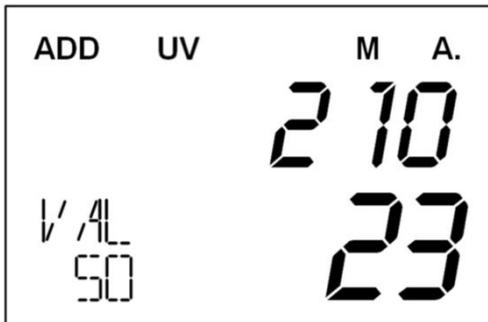

Figure 68
4) When the count is complete, the following screen will appear on the display: the number and amount of banknotes counted three times will be added up, as shown in Figure 68 below:
5) Press the **"PRINT"** button on the right side to print out the counting details through the printer, as shown in Figure 69 below. At the same time, when the machine is in the interface of Figure 68, press the number key "8/▼" on the left side to enter the interface of counting detail view. Press the number key "8/▼" to switch to view the number of banknotes counted and the amount of each denomination.